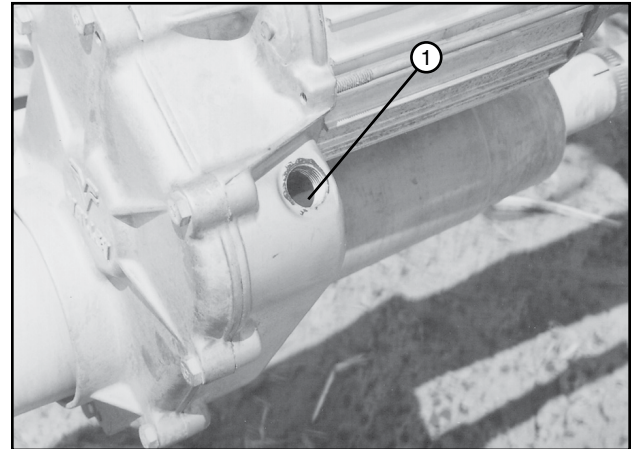

Figure 43-2 1. Bottom of Fill Plug Hole
2. Fill the gearbox 1-7/8 in (48 mm) from the bottom of fill plug hole with Valley Gear Lube. The capacity of the gearbox is approximately 44 oz (1.3 liter). See figure 43-2.